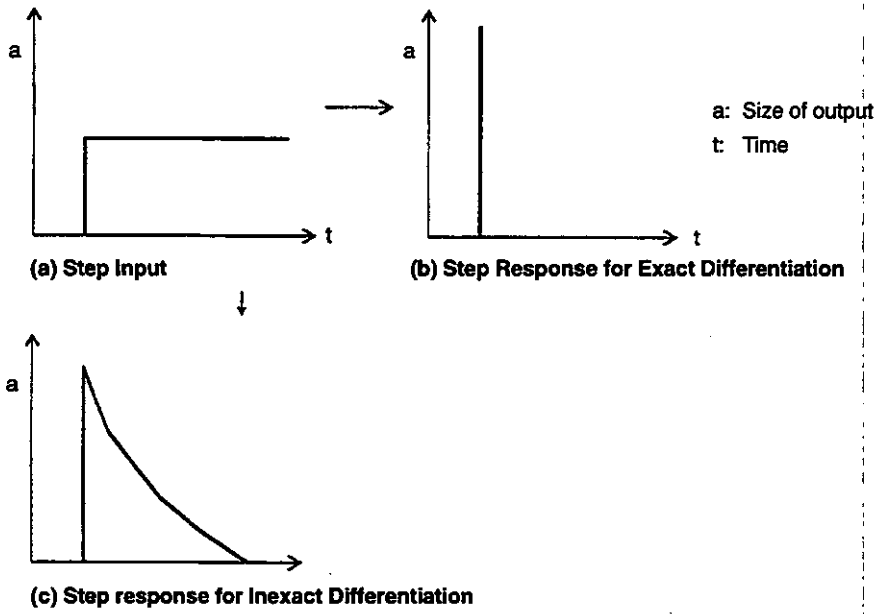
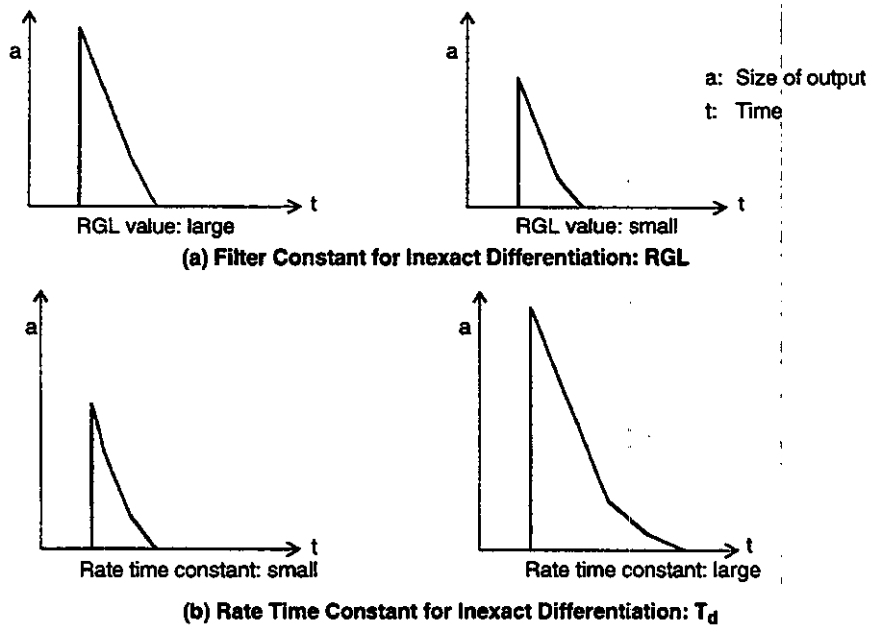

Figure 2.7 Step Response for Derivative Terms
Figure 2.9 Step Response to Changes in Filter Constant (RGL) for Inexact Differentiation and Rate Time Constant
- 1) For a step input, for example, if derivative calculations are used, a response like that shown in *Figure 2.7 (b)* will result. This is referred to as exact differentiation. Theoretically it is possible to produce a pulse wave output of unlimited size with a time amplitude of 0, but with waveforms with this line shape, the external control unit will not respond no matter how high it is. In addition, the effective range of the control signal is exceeded, and the functions of the derivative action will not only be unable to be utilized fully, but they also become hazardous.
- 3) Although the rate gain limit (RGL) constant is used as a filter constant, the smaller the value of this RGL constant becomes, the more effect it has as a low-pass filter. The step response changes shown in *Figure 2.7* and *Figure 2.9* are according to the filter constant RGL of the low-pass filter and the size of the rate time constant of the derivative term.